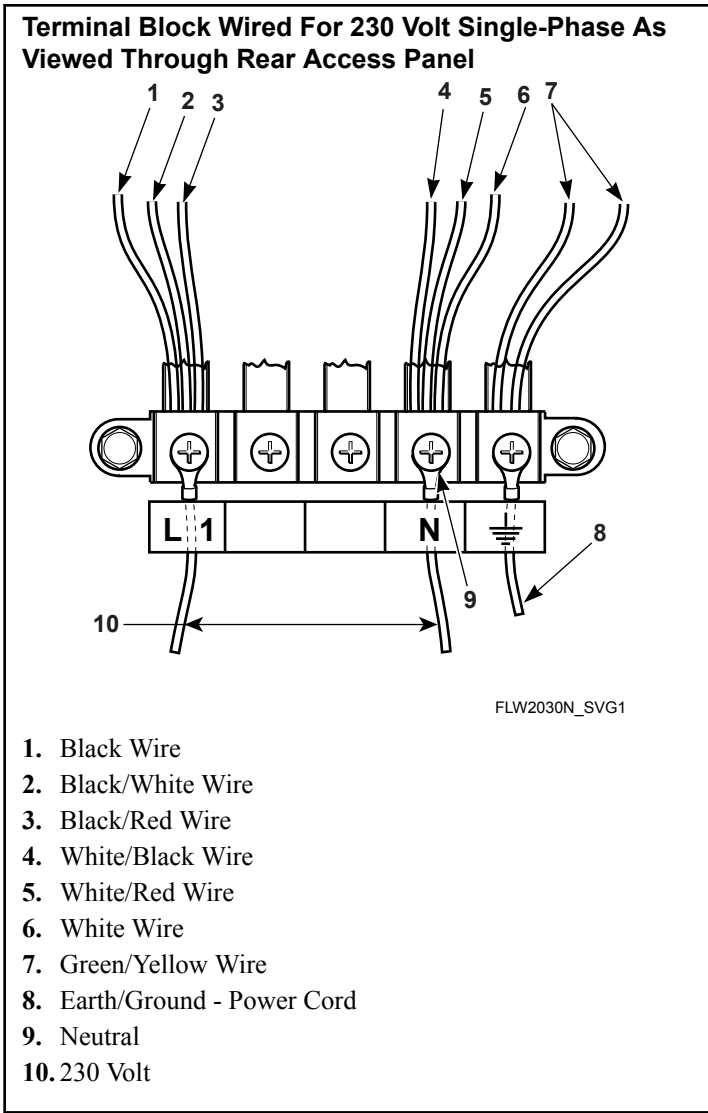
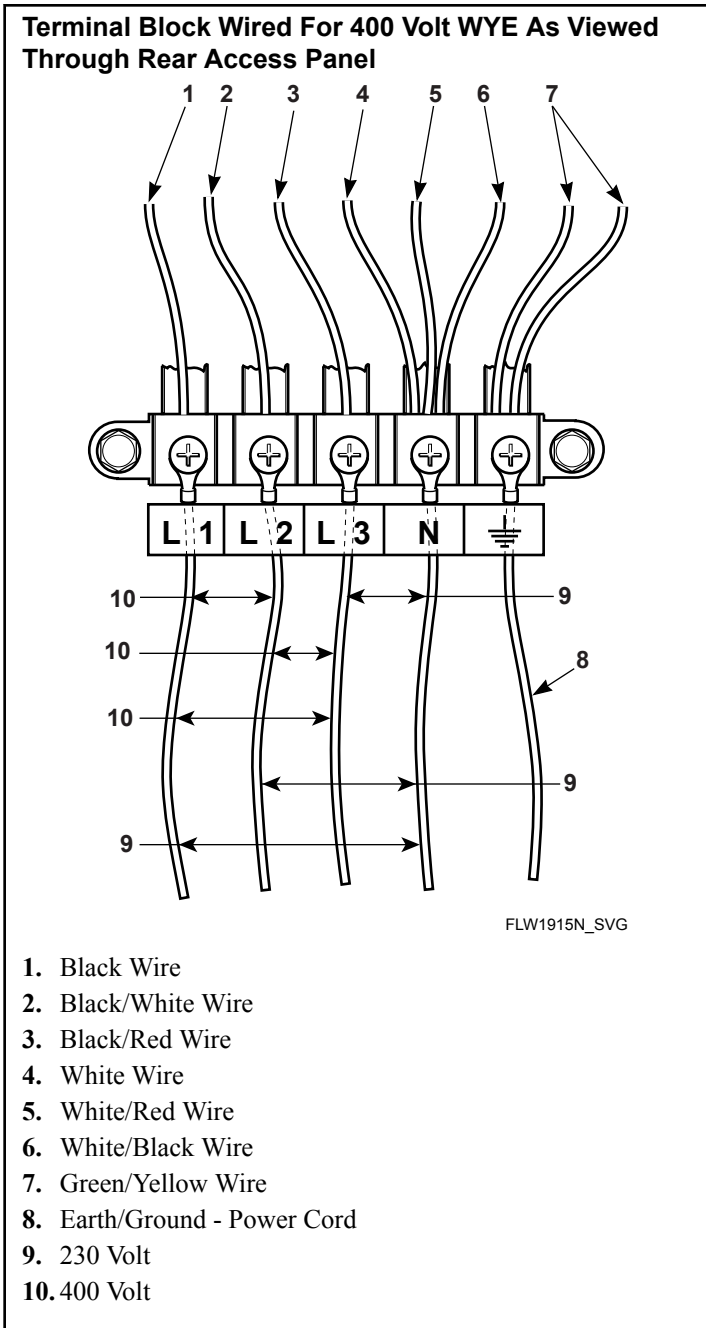
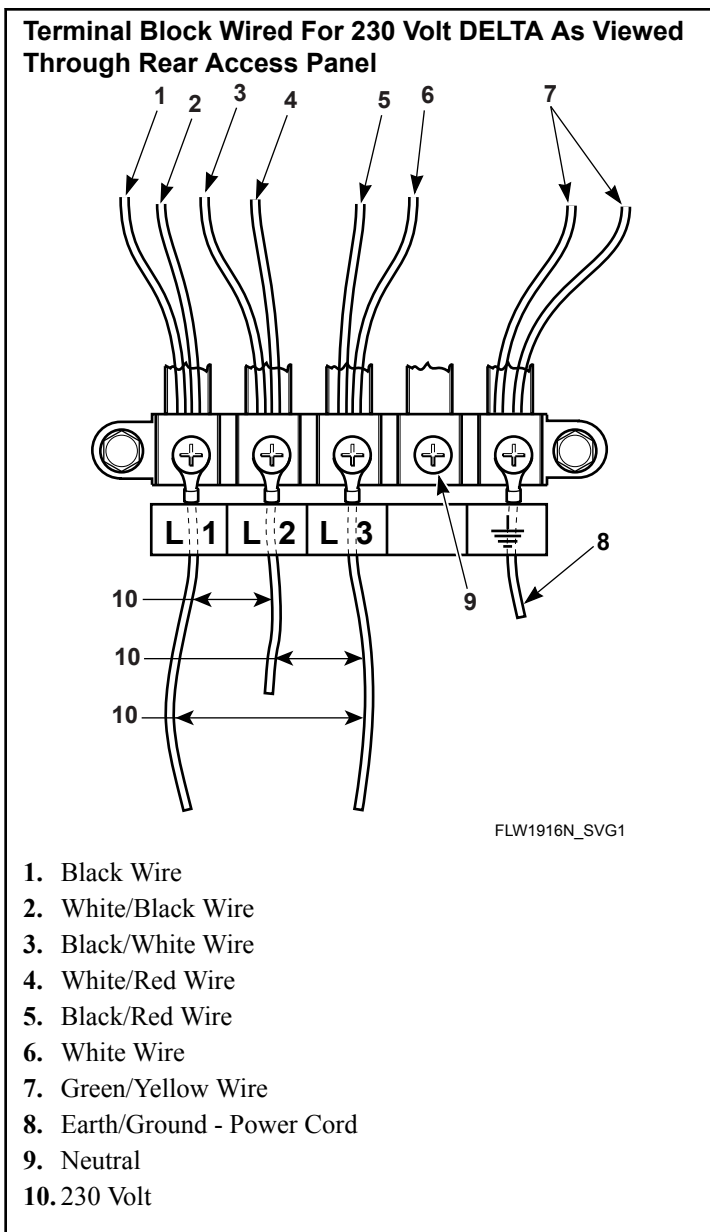

Figure 9
Figure 11
Figure 13
5. Attach power cord wires as shown in *Figure 9*.
To convert from 230 Volt, 2 wire plus earth, 21 Amp, Single-Phase to 400 Volt, 9.8 Amp, 3-Phase WYE connection. Refer to *Figure 9* and *Figure 11* :
8. Place 511568 Label, supplied with washer, underneath terminal block. Refer to *Figure 11* .
9. Attach power cord wires as shown in *Figure 11* .
To convert from 230 Volt, 2 wire plus earth, 21 Amp, Single-Phase to 230 Volt, 3 wire plus earth, 15 Amp, 3-Phase DELTA connection. Refer to *Figure 9* and *Figure 13* :
11. Place 801292 Label, supplied with washer, underneath terminal block. Refer to *Figure 13* .
12. Attach power cord wires as shown in *Figure 13* .